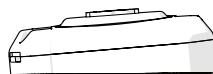

Figure 3
STEP 7 Reinstall the **Top Housing** so it snaps into place and there is no gap between it and the **Bottom Housing**. **FIG 3**